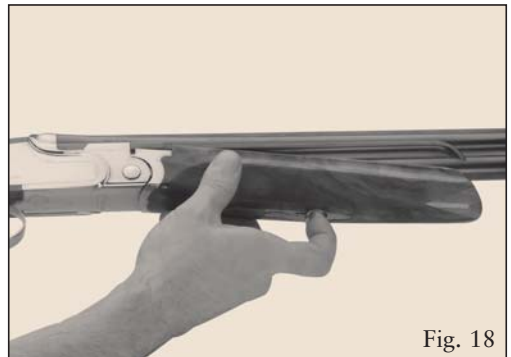

Fig. 18
- Remove the fore-end from the barrels by pulling the fore-end catch lever down (Fig. 18).